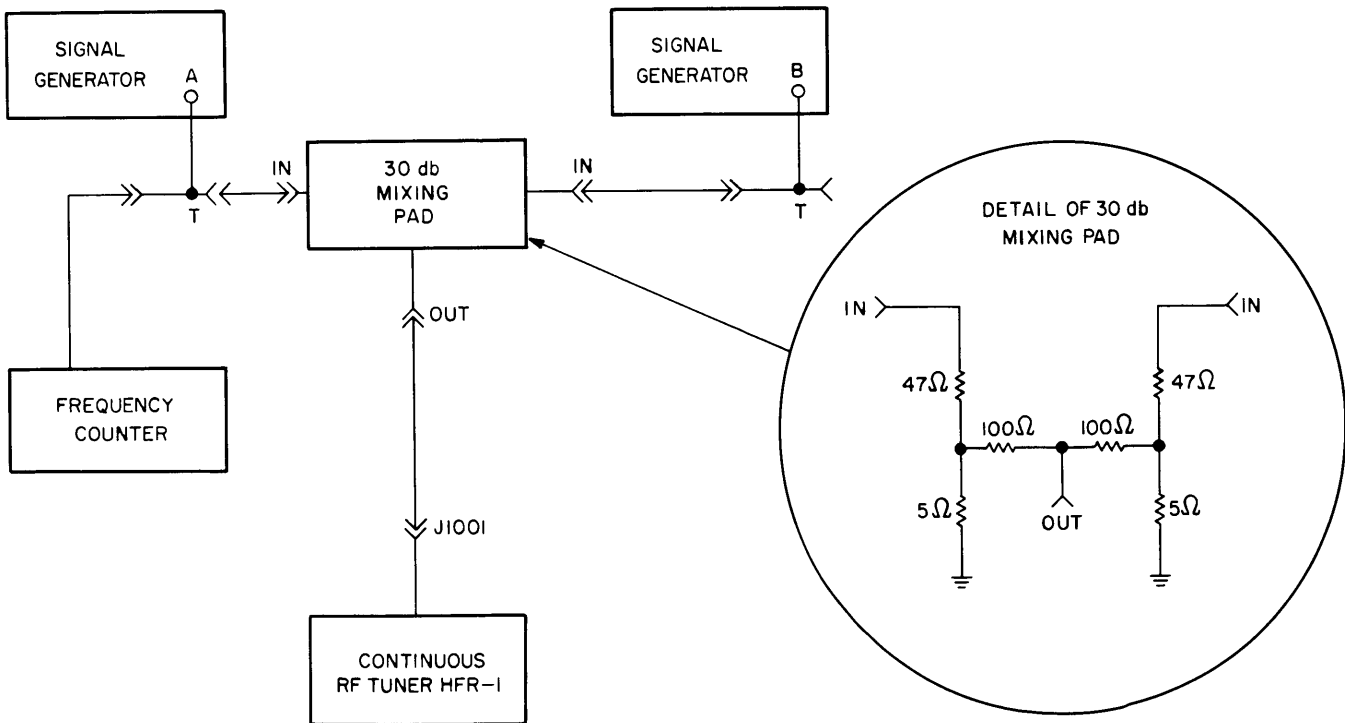

Figure 2-5. Connection Diagram for Two Tone Test, DDR-5B
(2) Set up test equipment as shown in connection diagram figure 2-5.
(1) Ensure that preliminary procedures outlined in paragraph 2-4, b have been completed.
(2) Ensure that signal generators and frequency counter care connected as shown in figure 2-5. Ensure that steps (3) through (10) of the Two Tone Test (paragraph 2-4, n) have been completed.
(3) Set NOTCH control (38) of Variable Notch Filter HNF-1 at ON.
(4) Observe spectrum analyzer while simultaneously rotating NOTCH ADJUST control (39) of HNF-1 to eliminate each tone in succession.
(5) Remove all test equipment, and restore HNF-1 controls to normal.